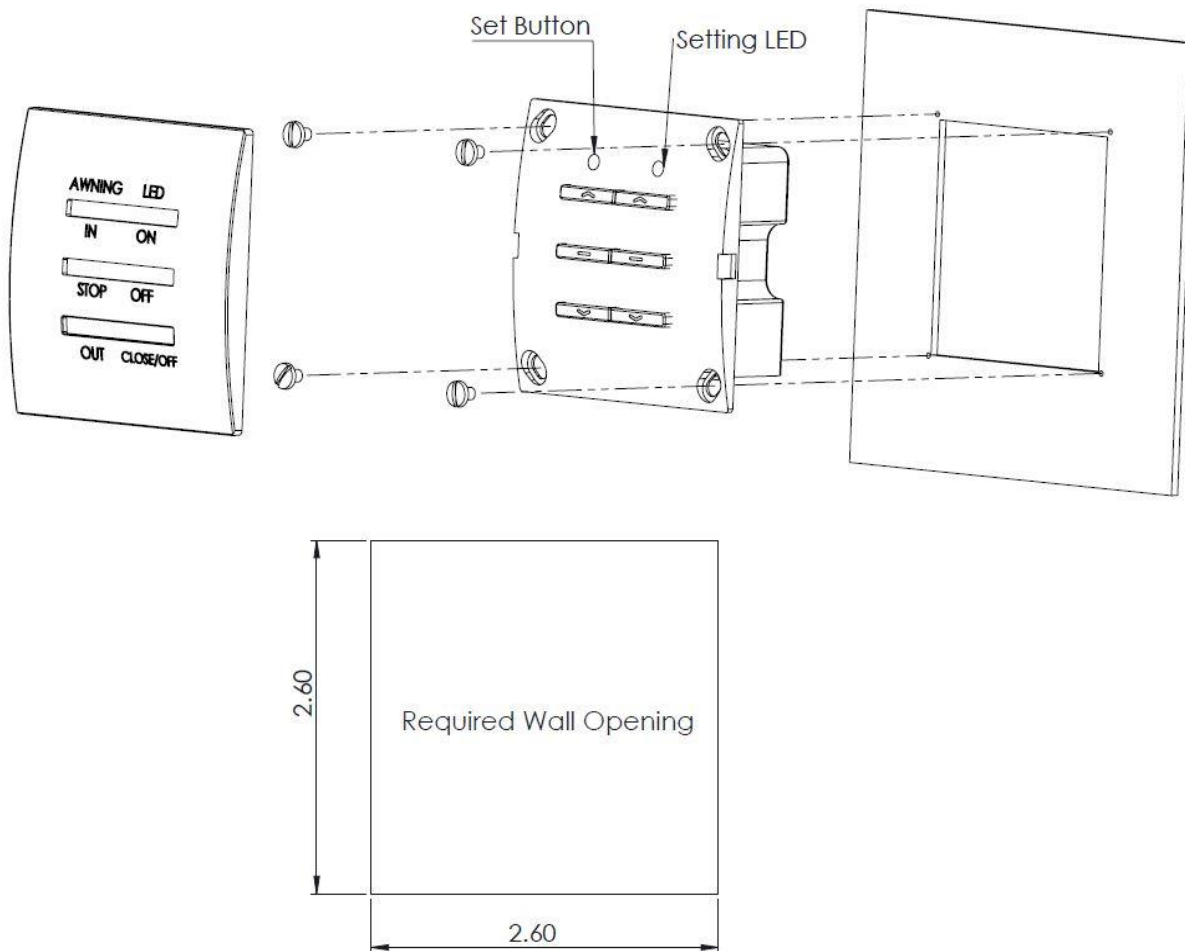

Fig. 2
1. Pull off the cover from the rocker switch 98GC981(B), (W).
2. Press and hold the **set button** for 10 seconds until you hear a beep from the rocker switch controller, see Fig. 2 above to locate the set button.
Attach the motion sensor to the lead rail using the mounting tab, see figure 2 above.